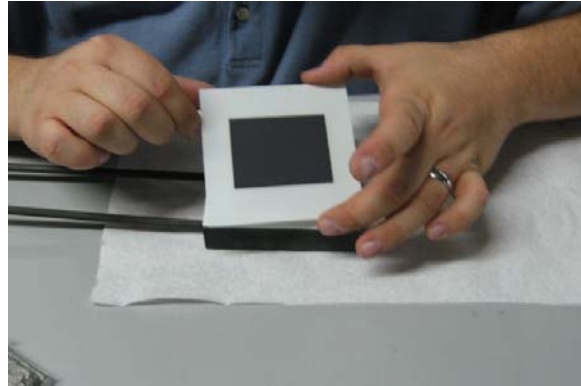

Figure 8
8. Carefully align the anode side cell against the Ni mesh and wire in place on the anode manifold (Figure 8)